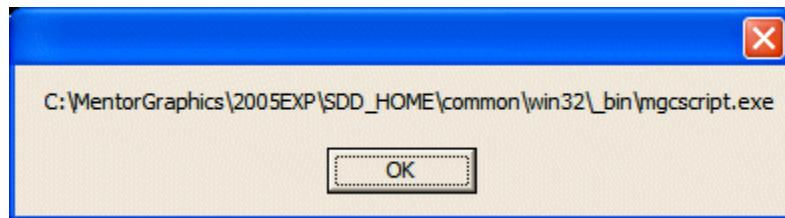

Figure 8-16. Displaying the first argument.
- 9) Press the <Enter> key to execute this command and re-run the *DisplayArguments.vbs* script with this new set of arguments. The first argument immediately appears in a *MsgBox()* as illustrated in Figure 8-16.